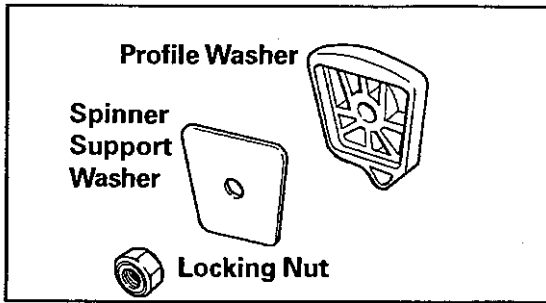

Figure 7-5
4. Remove the three locking type nuts ($\frac{1}{2}$ " socket) securing the spin basket to the spider assembly (Figure 7-5).